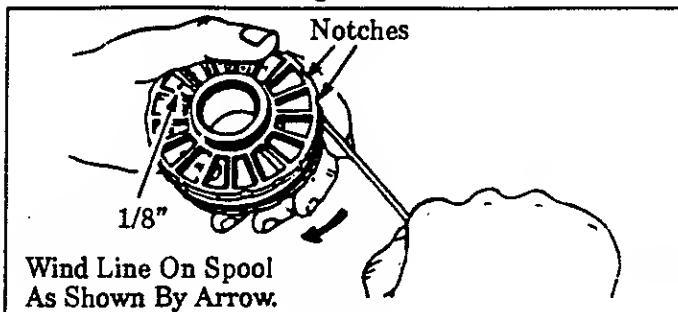

Figure 20
- d. Insert 1/16" to 1/8" of the end of the Line through one of the holes in the rim of the Spool. Allow no more than 1/8" line to extend beyond the rim to avoid interference with line release action. Figure 20.
- e. Wind the Line onto the Spool in the direction shown by the arrow on the Spool and as tightly and evenly as possible so the line will feed properly. Figure 20.